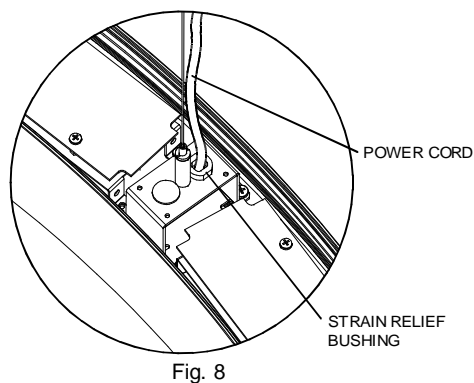

Fig. 8
18. Connect the power cord(s) to the fixture through one of the suspension connection brackets (around each suspension connection bracket there are connectors to connect the power cord). To secure the power cord to the bracket, remove the plastic dome plug(s) and use the strain relief bushing(s) (Fig 8).